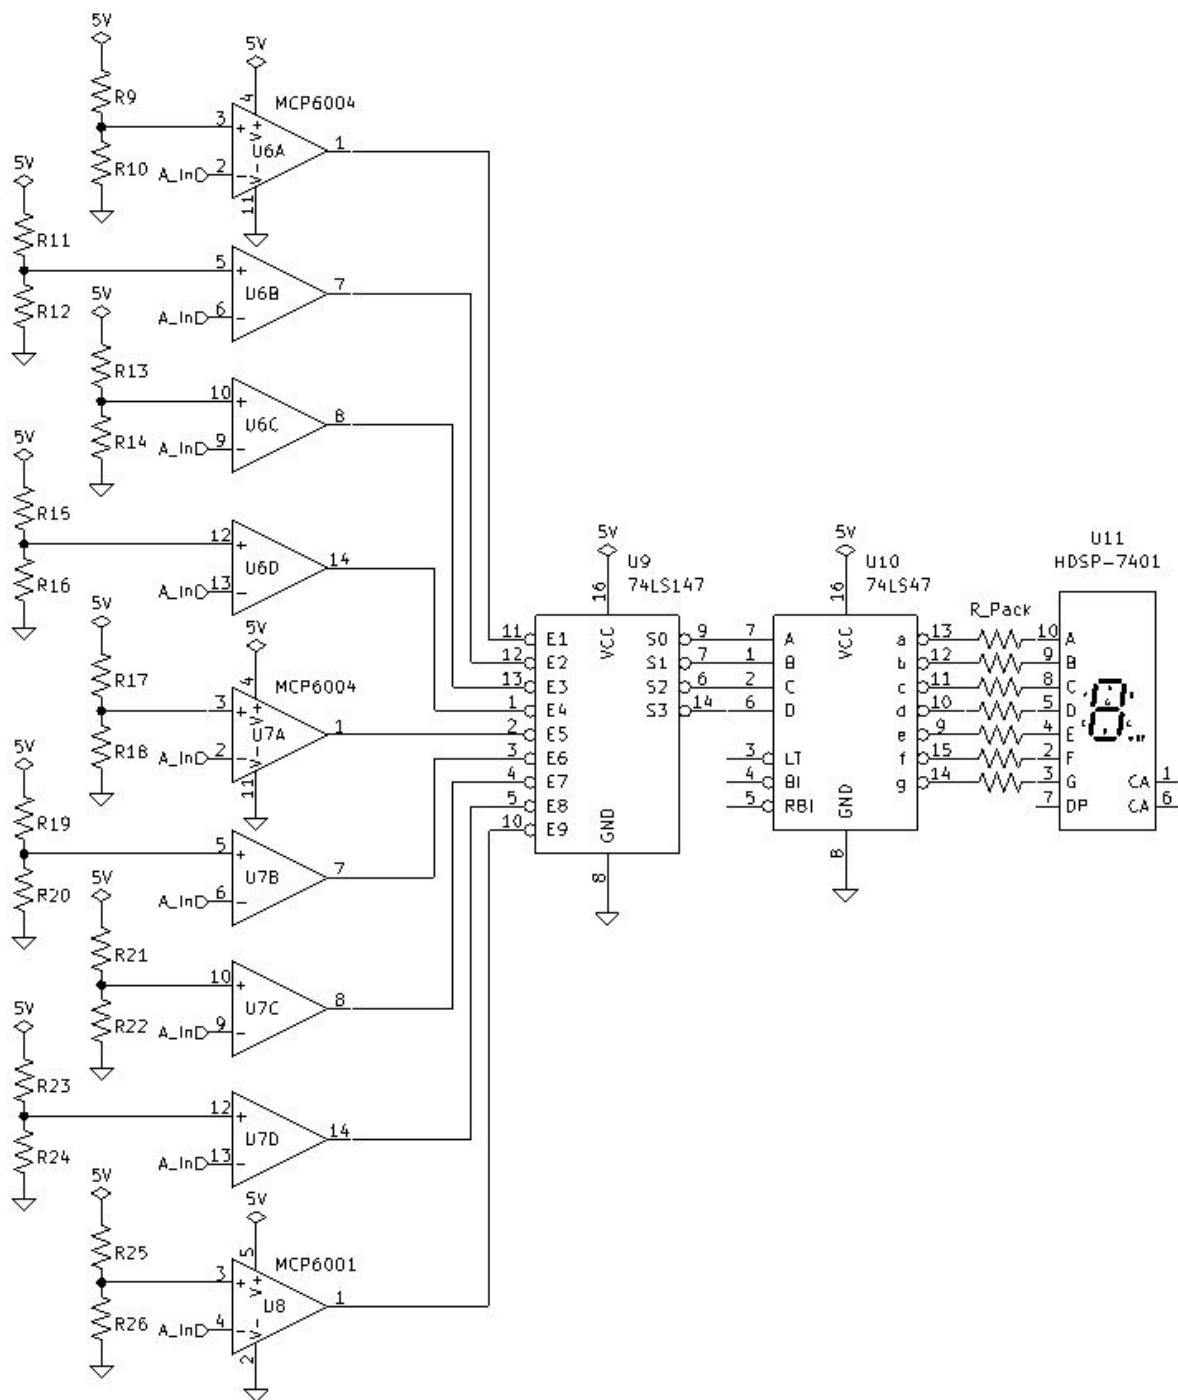

Figure 8.2: ADC Engineering Department Prototype Circuit.
1. The Engineering Department has sent you an ADC prototype circuit that they are working on. The ADC circuit is not working as expected. The Engineering Department needs you to analyze the circuit and make sure all the connections are correct. See Figure 8.2 *ADC Engineering Department Prototype Circuit* on page 83.